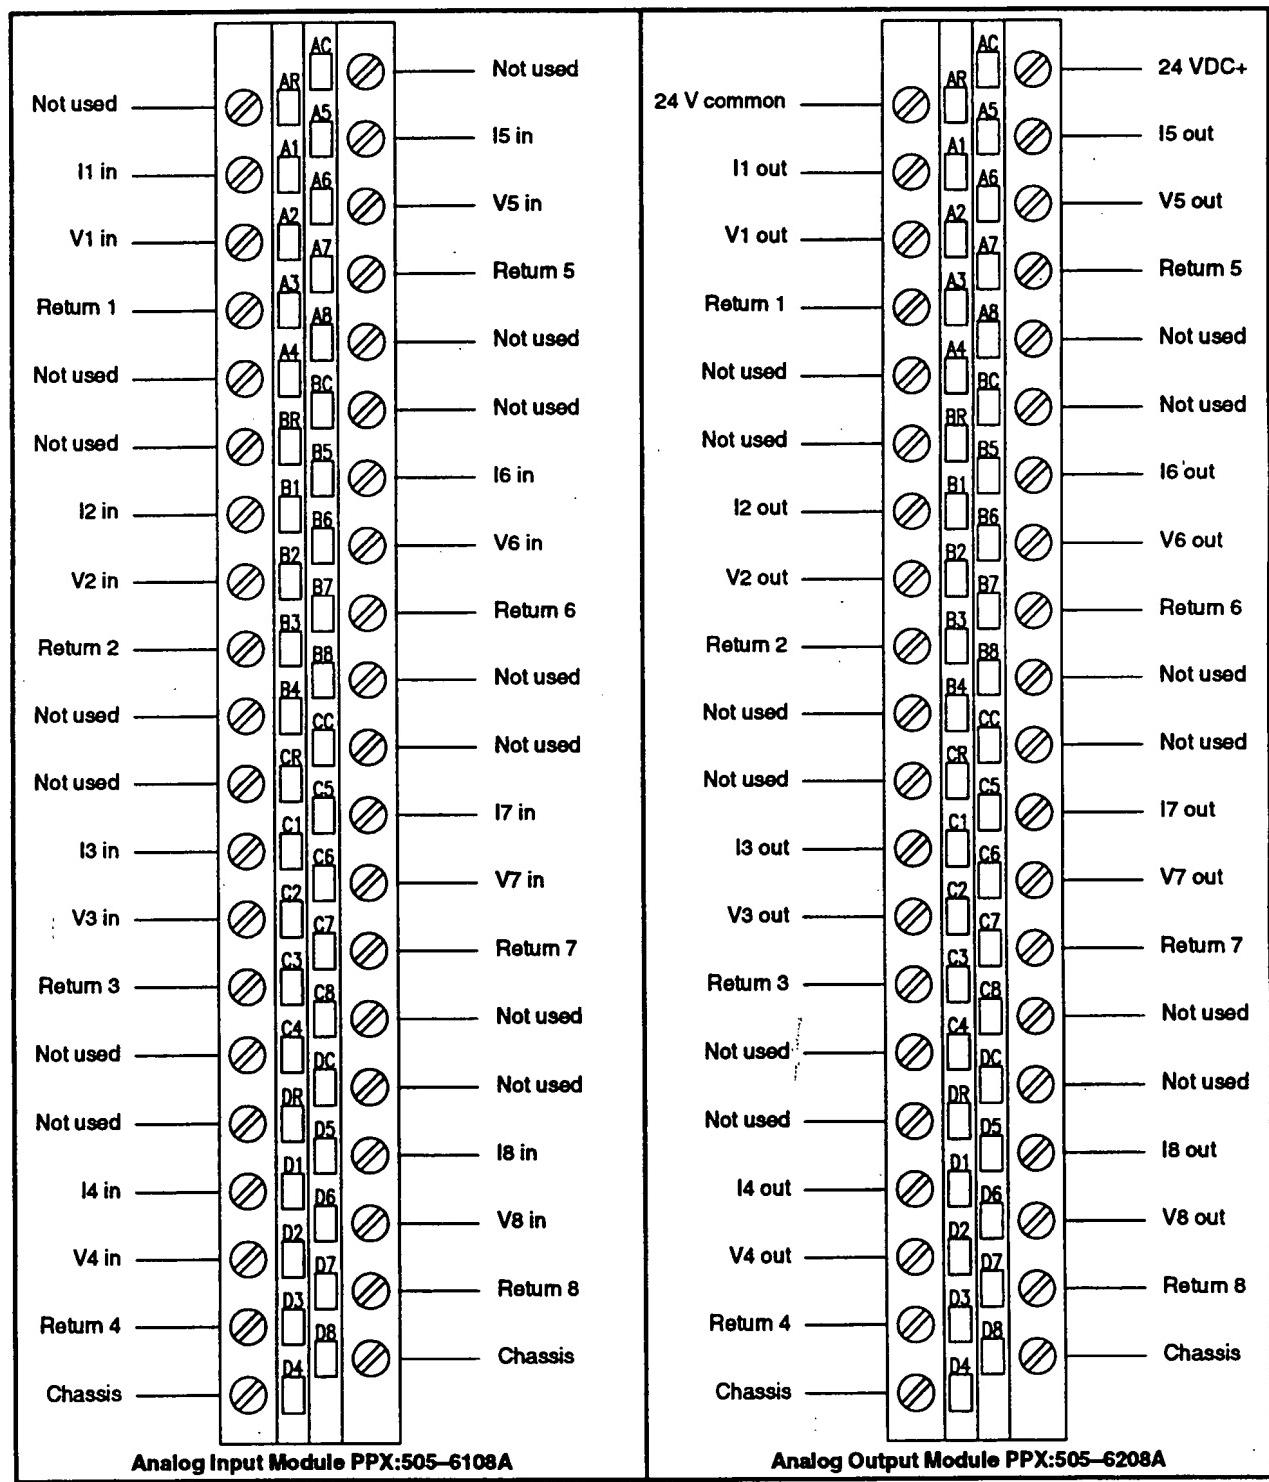

Figure 2-4 Pinouts
2. Using the appropriate pinout as a wiring guide (Figure 2-4), start with the D terminals and loosen the terminal block screws.